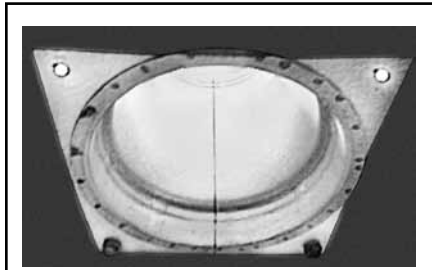

Figure 19
1. Remove the 2 top front screws and loosen the 2 top rear screws of the rear solid cover plate (Figures 19 and 20).